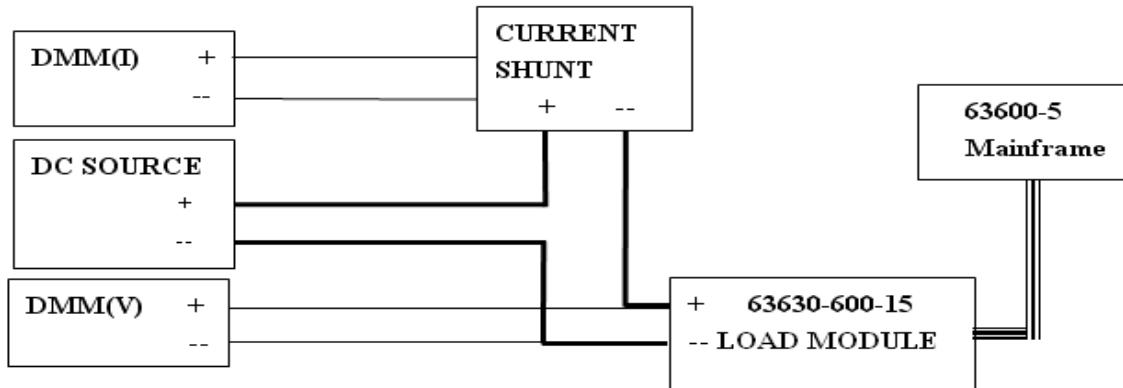

Figure 7-1
- A. Connect the Load module, DC source, DMM, and current shunt, as shown in Figure 7-1. Use DMM (V) to measure the voltage passing through the module's input terminal. Be careful in making connections so that contact resistance voltage drop will not affect the readings.
- A. Connect the load module, DC Source, DMM, and Current Shunt, as shown in Figure 7-1. Use DMM (W) to measure the voltage passing through the module's input terminal. Be careful in making connections so that contact resistance voltage drop will not affect the readings.
1.6W	40V/0.5A	3.5248W	0W	DMM (W)± 0.6416W
- A. Connect the load module, DC Source, DMM, and Current Shunt, as shown in Figure 7-1. Use the DMM (W) to measure the voltage passing through the module's input terminal. Be careful in making connections so that any contact resistance voltage drop will not affect the readings.